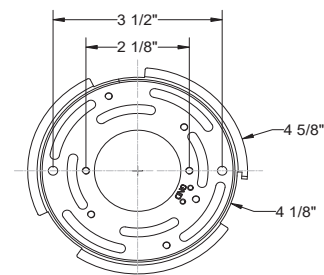

Fig. 2 Wiring
### CONNECTING THE WIRES (Fig. 2)
8. Connect the fixture's input's wires to junctionbox wires as shown in Fig. 2, making sure that all wire connectors(A) are secured. If your outlet box has a green or bare copper ground wire, connect the fixture's ground wire to it. Otherwise, connect the fixture's ground wire directly to the mounting plate using the green screw provided. After wires are connected, tuck them carefully inside the junction box.